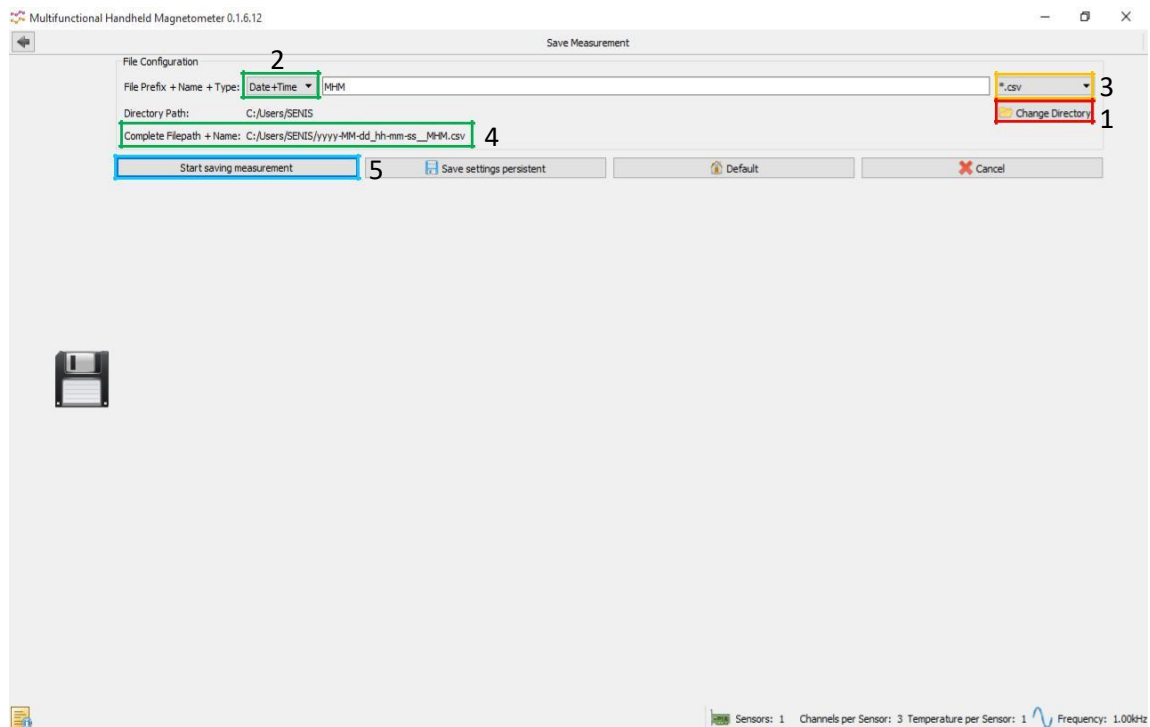
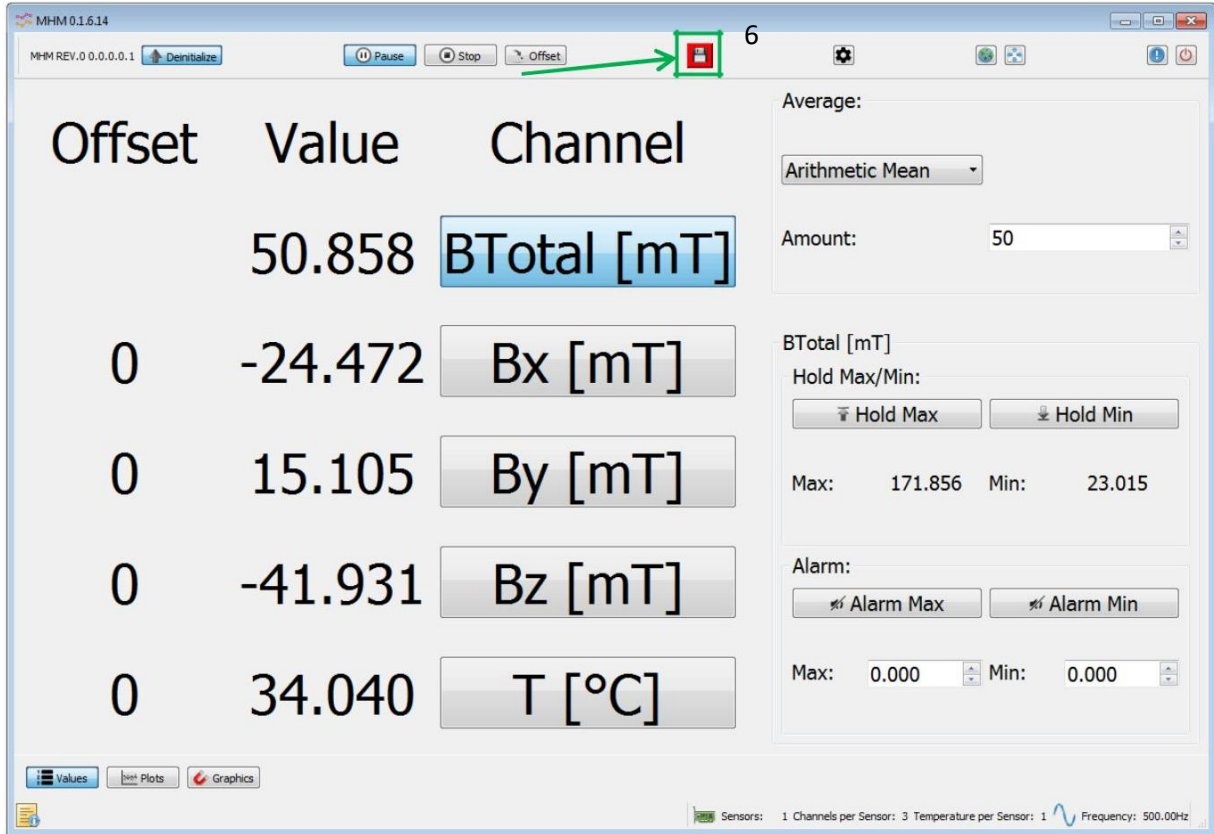
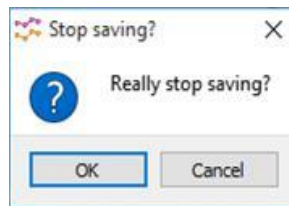

Figure 20: 3MTS Software – Save Measurement
Figure 22: 3MTS Software – Measurement is recorded
Figure 23: 3MTS Software – Stop saving
In the menu bar, you can select the option "Save" to save a plot. The saving path can be set by pressing the "Change Directory" button (1) (see Figure 20). There is also the option to change the file types (3) and to select a time stamp (2) for the file name creation. The complete file name is displayed in a preview (4). The measurement data acquisition is started by pressing the button "Start saving measurement" (5). In the main application window, the symbol "Save" changes its color and is shown in red (see Figure 22), which indicates an active recording. By pressing the "Save" symbol again, the data recording can be stopped (see Figure 23).